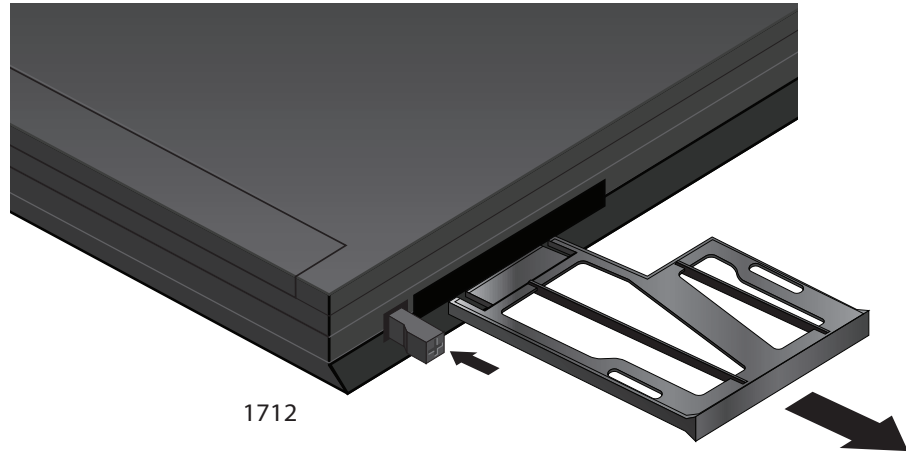

Figure 6. Removing the Plate
4. Remove the plate from the laptop. See Figure 6.